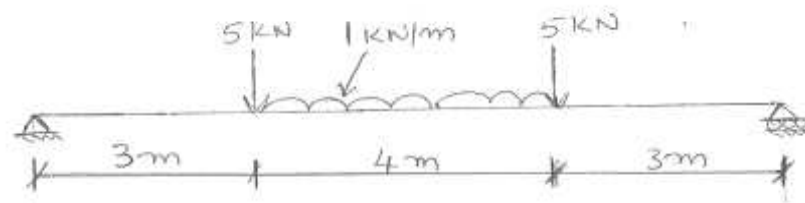

Figure 3
3. Sketch the shear force and bending moment diagrams showing the salient values for the loaded beam shown in the figure 3 below. [16]